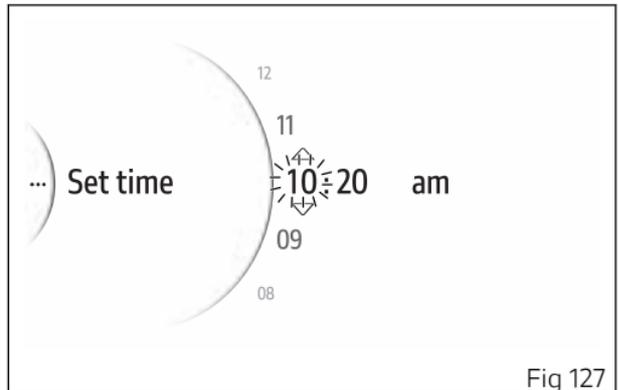

Fig 127
- Use buttons (1) and (2) from the Interactive Menu to select the "Setting menu" item and press ENTER (3).
- Select the "Date and time" item and press ENTER (3).
- Select the "Set time" item and press ENTER (3).
The hour number becomes flashing and is displayed with two arrows placed above and below it; the available values are also displayed (Fig 127). Use buttons (1) and (2) to scroll and select the desired value. Press ENTER (3) to confirm and move on to the following parameter.